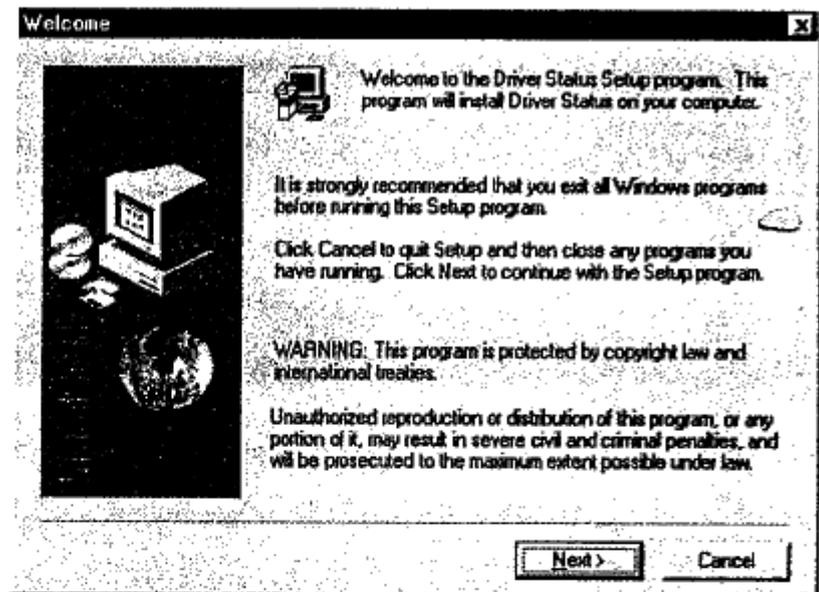

Figure 4-8
3. The computer will load the utility from floppy drive A and start the "Driver Status Setup" program as shown in Figure 4-8. In the "Welcome" dialog box, click "Next" to continue the setup procedures. Just follow the instructions to install the utility.